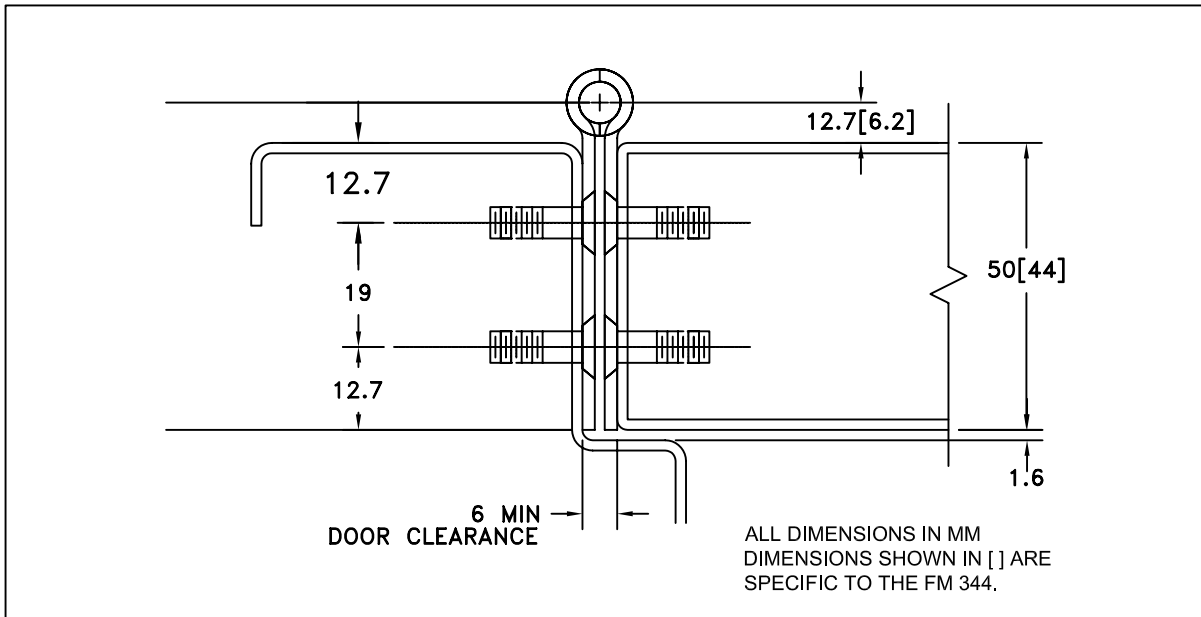

Figure 1: Hinge Placement & Clearance Template
- 2) Place hinge on frame as shown in fig 1; allow 3.2mm between top of hinge and underside of header & 1.6mm between stop and edge of hinge.
- 5) (A) & (B) – Drill all holes using a 6.3mm bit.
- 6) (B) – Tap holes for a 10–24 thread.
- 9) (A) – Attach the hinge to the door with No.10 x 1 ¼" flat head undercut sheet metal screws OR